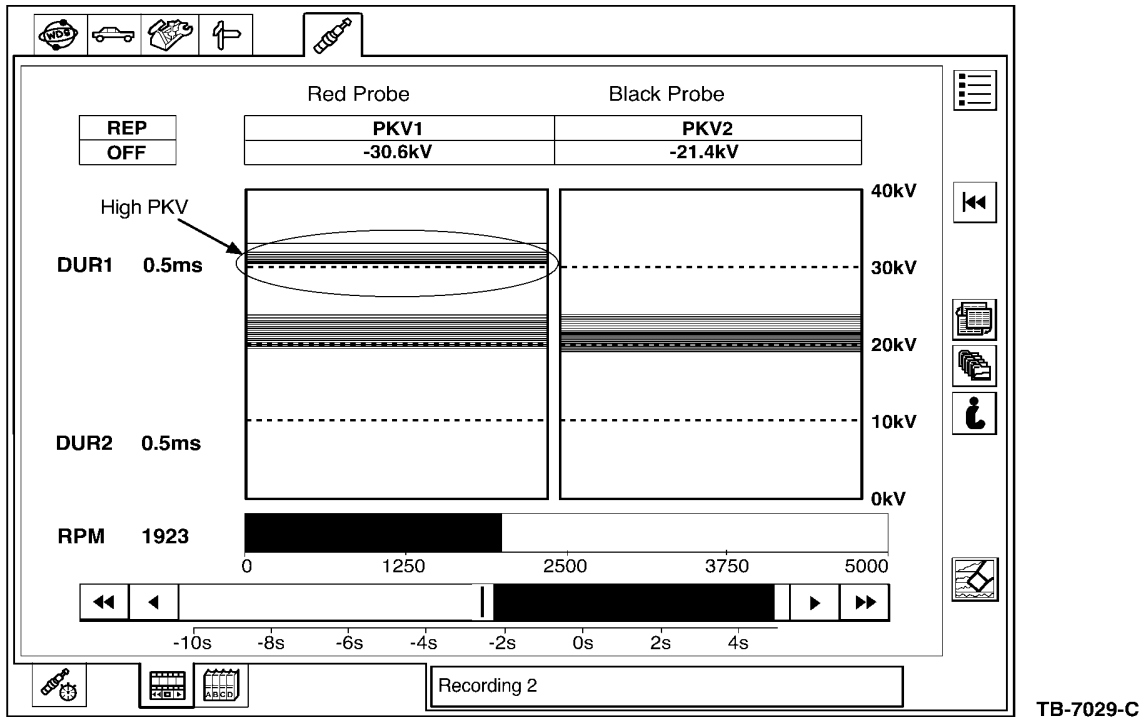

Figure 6 - Article 05-22-8
Run Ignition System Test on WDS to determine if there is an ignition problem. Look at both duration (DUR) and kilovolts (KV) and look for values that stand out from the rest as shown in Figure 5 and Figure 6.